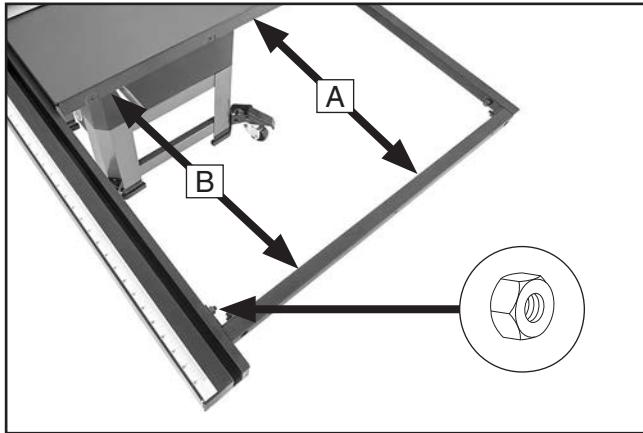

Figure 32. Fence rail brace installed.
32. Measure distance (A) from table edge to rear end of fence rail brace, then adjust front end of fence rail brace so it is the same distance (B) from table edge (see **Figure 32**).
33. Secure front rail brace hex bolt from Step 30 with M8-1.25 hex nut (see **Figure 32**).